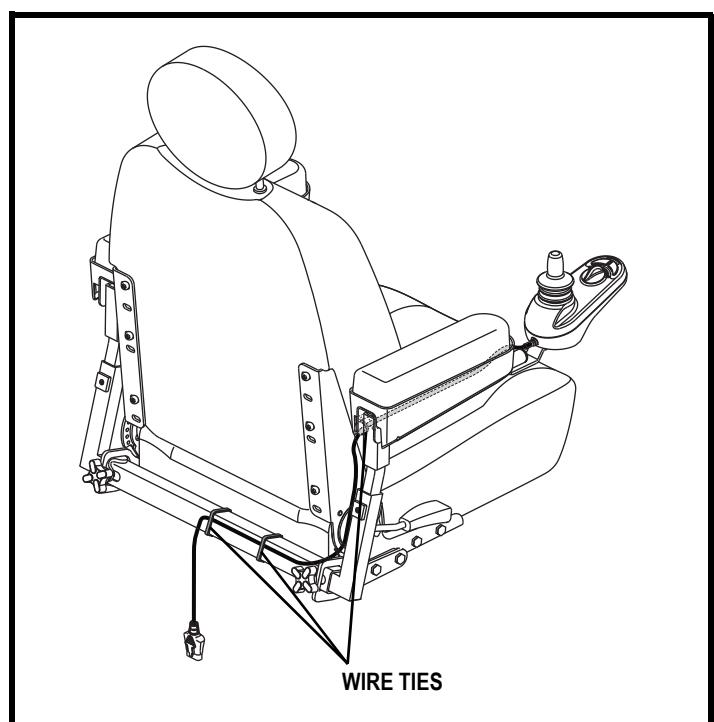

Figure 12. Controller Harness Routing
11. Secure the controller harness to the armrest receiver with wire ties. **See figure 12.**